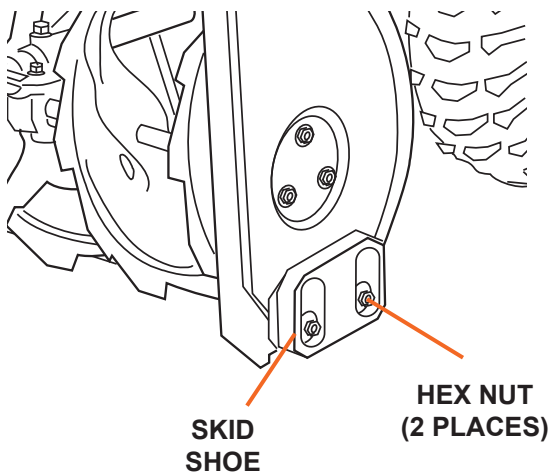

Figure 7
1. Position the skid shoes based on surface conditions. Adjust upward for hard-packed snow. Adjust downward when operating on gravel or crushed rock surfaces. Loosen the two hex nuts that retain the skid shoe in place and move up or down as desired, then retighten the lock nuts (see Figure 7). Repeat for the opposite side of the snow thrower.